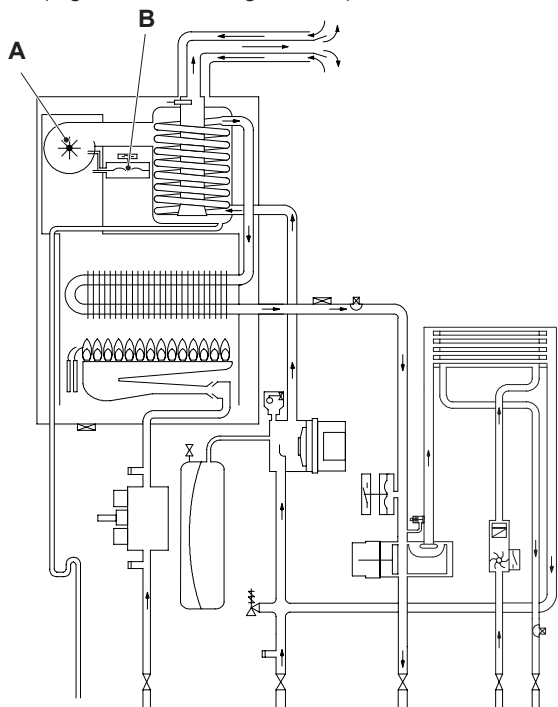
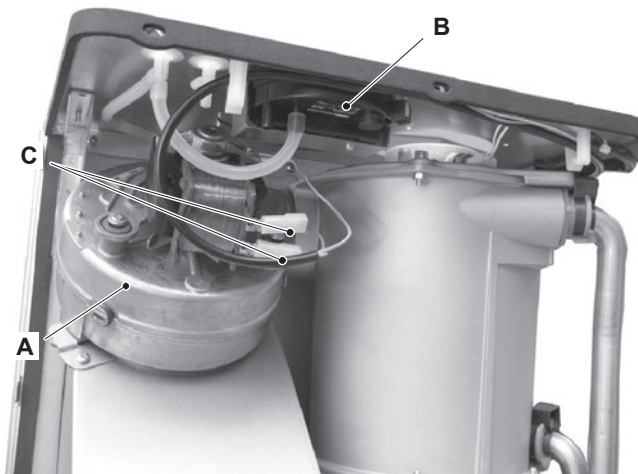

Figure 17.1
Figure 17.2
The function of the Fan A (Figure 17.1 and Figure 17.2) is to force the products of combustion through the condensing heat exchanger to the outside air via the flue system.
Its correct functioning is controlled by means of an Air pressure sensor B (Figure 17.1 and Figure 17.2).
- 2 Disconnect the connectors C (Figure 17.2) and measure the electrical resistance of the motor that has to be about: